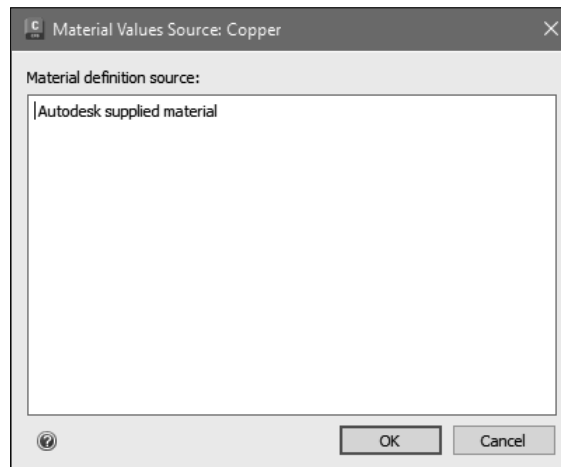

Figure-15. Material Values Copper box
- Click on the **Source** button from **Material Editor** dialog box to view the source of material. The **Material Values Source** dialog box will be displayed; refer to Figure-15.